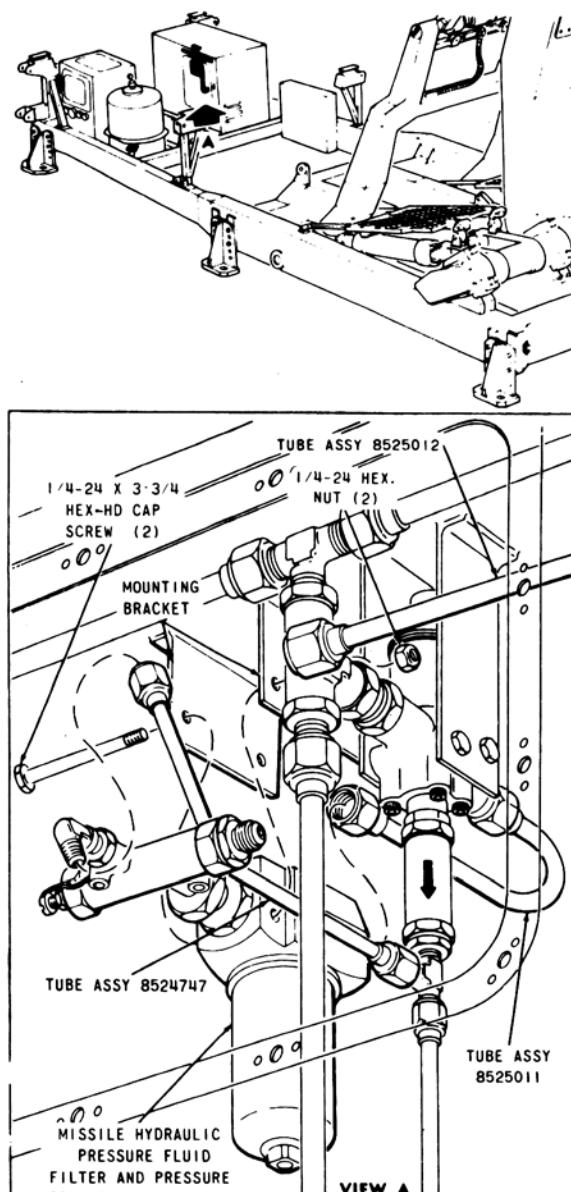

Figure 140. Missle hydraulic pressure fluid filter and pressure reducer valve group—removal and installation.
- (e) Disconnect and cap the three attaching tube assemblies (fig. 140).
- (2) *Disassembly.*
(a) Check all hydraulic connections for fluid leakage; if there are any leaks, remove the attaching tube assembly (fig. 140) as described in w(1) below.